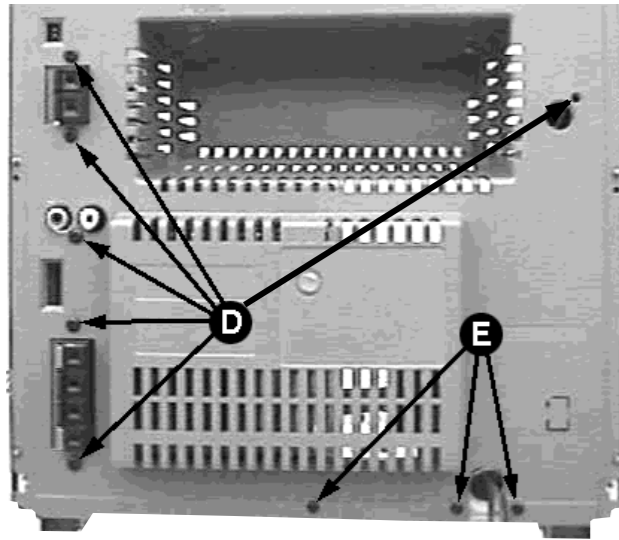

Figure 7
- 1) Loosen 6 screws D mounting the Combi board to the Rear Panel (pos 256) as shown in figure 7.
- 2) Loosen 3 screws E and release the 2 catches on the sides of the Rear Panel to separate it from the Bottom plate (pos 265).